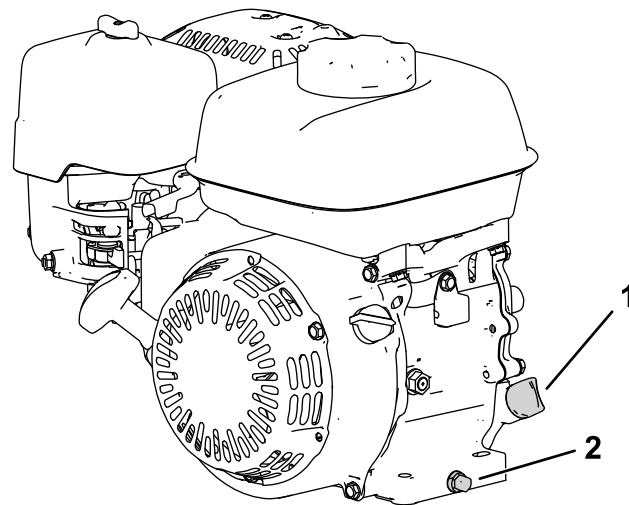

Figure 17
2. Position the machine so that the engine is level, and clean the area around the oil-fill tube (Figure 17).
- Remove the drain plug (Figure 17).